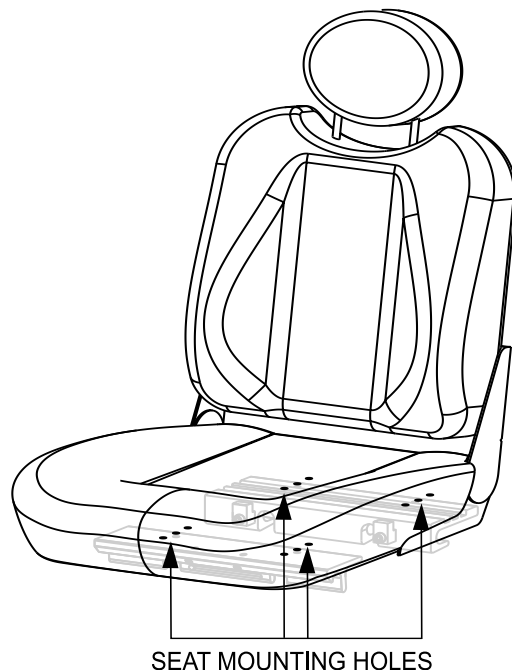

Figure 10. Seat Mounting Holes
3. Reposition the extrusions on a different set of mounting holes. See figure 10. You must move both extrusions the same number of holes either forward or backward.